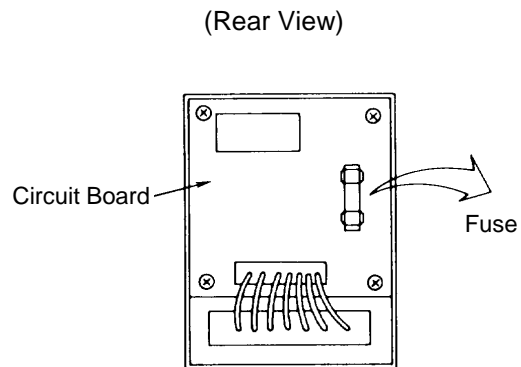

Figure 5.2
2. The cartridge fuse mounted inside is exposed by removing the rear cover (Figure 5.2).